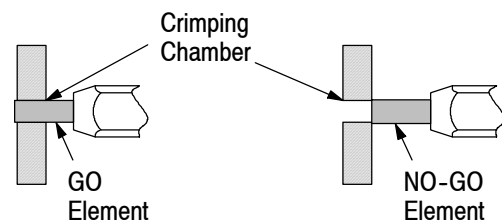

Figure 4
This inspection requires the use of a plug gage conforming to the dimensions provided in Figure 4. Tyco Electronics does not manufacture or market these gages. To gage the crimping chambers, proceed as follows:
3. Carefully insert GO element straight into the corresponding crimping chamber; do not force it. The GO element must pass completely through the crimping chamber. See Figure 4.